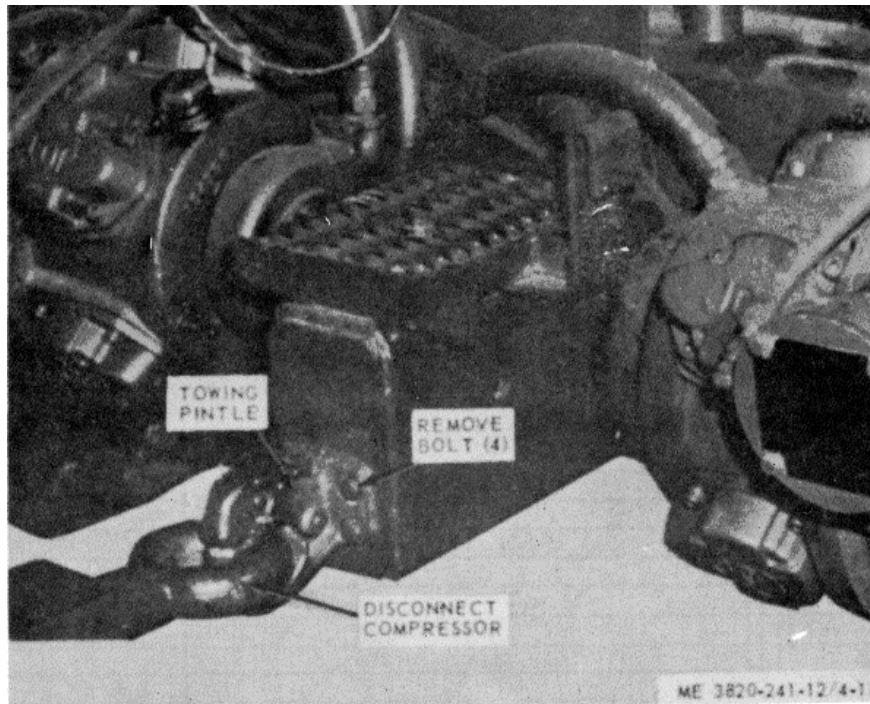

Figure 4-17. Towing pintle, removal and installation.
a. Removal. Remove the towing pintle as illustrated in figure 4-17.
- (3) Replace a defective towing pintle.
c. Installation. Install the towing pintle as illustrated in figure 4-17.